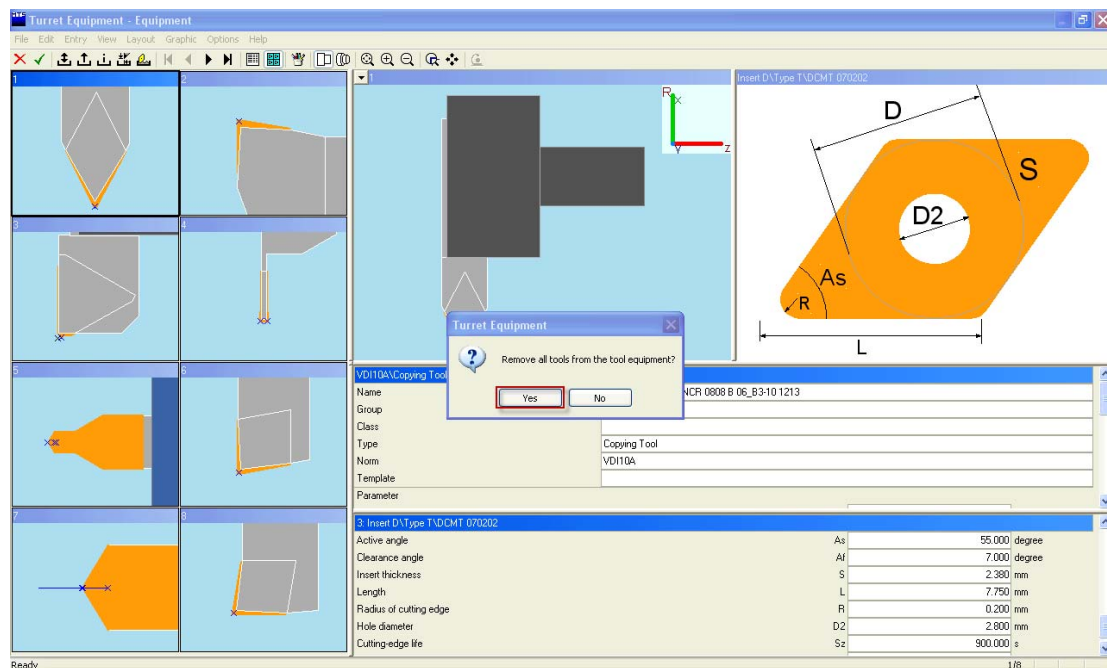

Fig. 2.16: Selecting new tool set
b. A message appears asking the following question “**Remove all tools from the tool equipment?**”, Select “**yes**” if you want to select a new tool set as shown in Fig. 2.16.